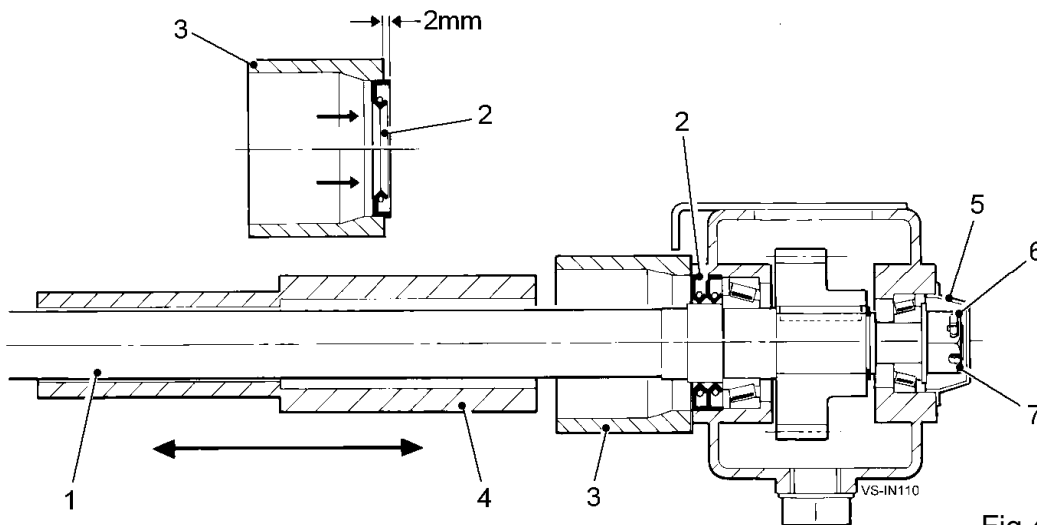

Fig 42
The roller shafts (item 1, fig. 42) are each fitted with an oil seal (item 2, fig. 42) which is press-fitted into the gearbox casing. The seals prevent loss of oil from the gearbox and also prevent the ingress of dirt. If leakage is apparent, the seals can be replaced in situ by using the guide sleeve and slide hammer service kit.
2. Prise out the worn seal (item 2, fig. 42) taking care not to damage the seal aperture in the gearbox. Clean the seal aperture and the surrounding face of the gearbox.
4. Push the new seal into the compression ring (item 3, fig. 42) until the seal protrudes approximately 1-2mm beyond the ring face (see fig. 42). Slide the compression ring complete with seal over the roller shaft (item 1, fig. 42) and locate the seal into the aperture.
5. Locate the slide hammer (item 4, fig. 42) over the roller shaft and, holding the compression ring and seal firmly against the gearbox face, bump the seal into the gearbox. If required, a second seal can be fitted behind the first to give additional backup.